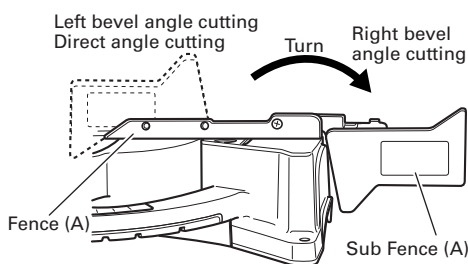

Fig. 11
In the case of right bevel cutting, raise the sub fence (A) up as illustrated in Fig. 11 and then turn it clockwise.